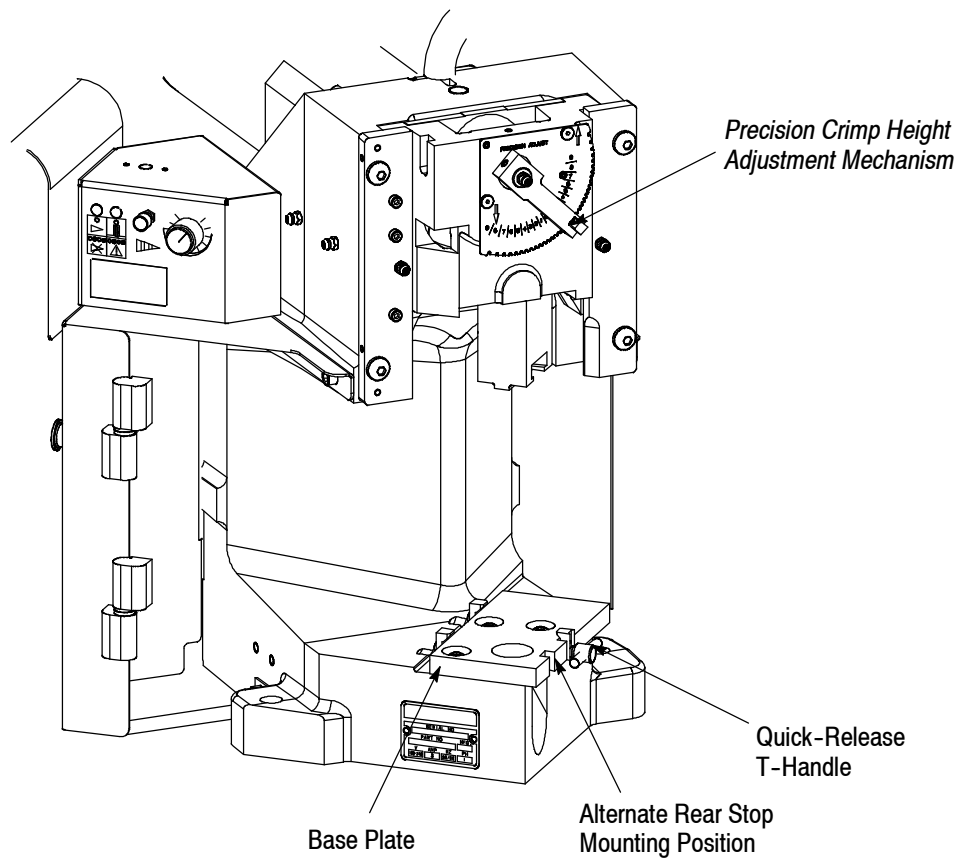

Figure 4
3. The **base plate** provides the mounting surface on which the applicator is installed. The quick-release latching feature permits fast, easy installation and removal of the applicator. See Figure 4.
When using Applicator 567200-2 (originally intended for use with AMP-O-LECTRIC Model "K" terminating machine), loosen the quick-release T-handle, slide down the applicator base clamp, and remove the rear stop located on the left side of the base plate. Install the rear stop (PN 354561-1), supplied with the air feed kit, at the alternate mounting position on the base plate. See Figure 4.